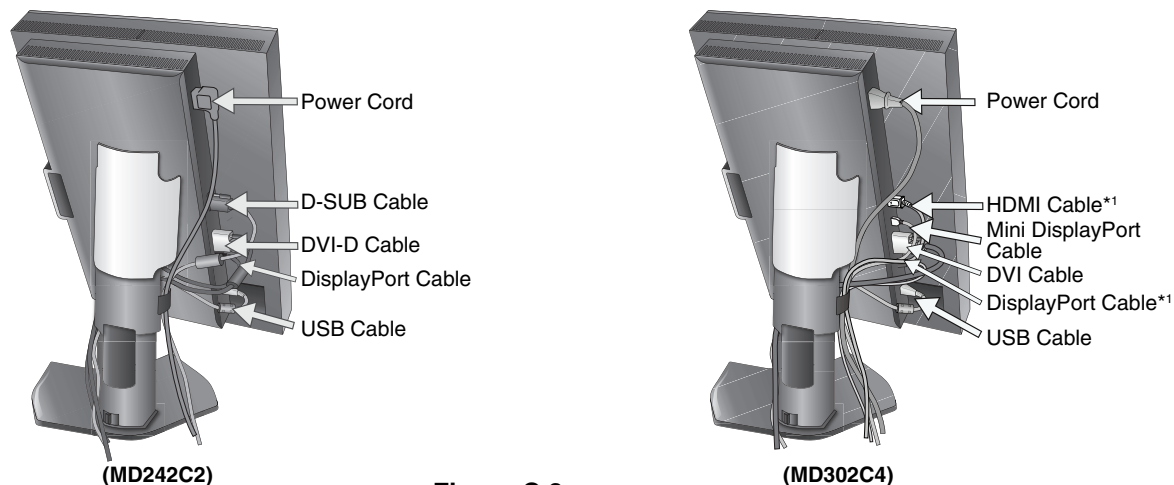

Figure C.3
5. To keep the cables neatly organized, place them into the cable management system that is built into the stand. Place the cables in the hooks firmly and evenly (**Figure C.2** and **Figure C.3**).